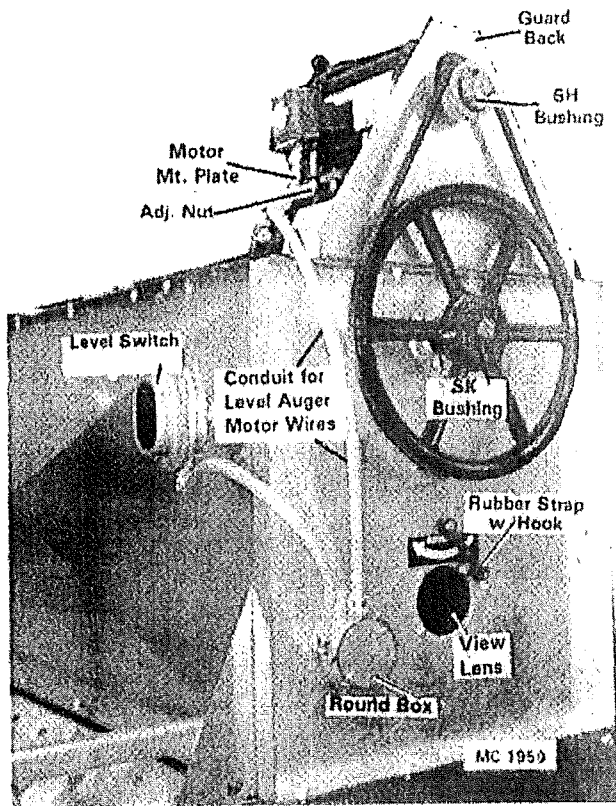

Figure 4 - Level Auger Drive
2. Put four ½-13 x 3½" (12.7 x 89mm) full thread capscrews in the level auger motor mount and lock in place with flanged locknuts. Thread a ½-13 (12.7mm) hex nut onto each capscrew and install the motor mount plate with motor, see Figure 4.
3. Install the level auger guard back as shown in Figure 4. Install a ¼" x ¼" x 2" (6.35 x 6.35 x 51mm) key in the level auger shaft and a ¼" x ¼" x 1¾" (6.35 x 6.35 x 44.5mm) key in the 3HP motor shaft or 5HP motor shaft.
11. Install the rubber strap with hook to the front end panel as shown in Figure 4. Hook the level auger guard over the top of the guard back and secure with the rubber strap and hook.
12. Remove the level auger motor junction box cover and the round junction box cover. Connect the flexible conduit and wire assembly 36" long (91.5cm) to the motor and round box. See Figure 4.
1. Connect the flexible conduit to the bottom of the round junction box on the hopper front end panel. See Figure 4.
- A. Connect the (2) red wires imprinted TB24-B → LSW-C together, the (2) red wires imprinted LSW-NC- → LASW together, and the (2) white neutral wires.
- B. Connect the (2) black wires together, (2) red wires together and (2) blue wires together (blue used on three phase dryers only). There are (2) green motor ground wires that also must be connected.